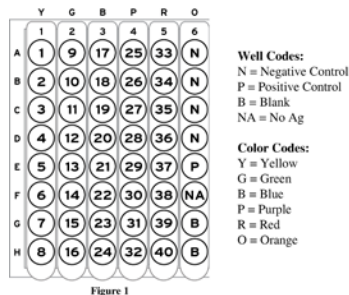

Figure 1
8. Add 50  $\mu\text{L}$  of the appropriate diluted control or sample to the wells as designated in figure 1. Add patient serum to all numbered wells and to the NA well.